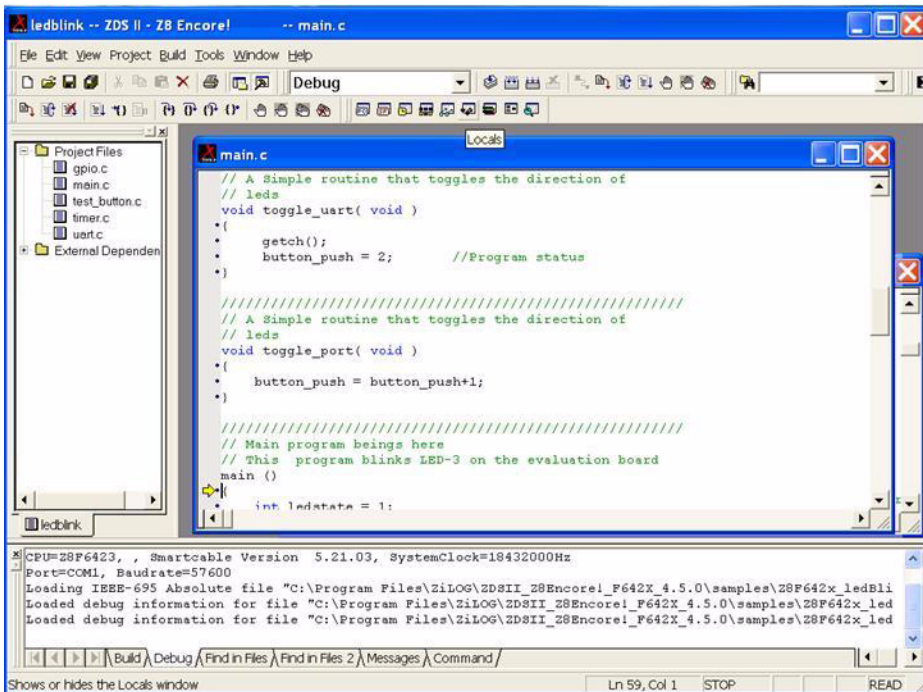

Figure 7. ZDS II Active Screen
10. Click **Go** to start the program. The screen changes as displayed in Figure 7.